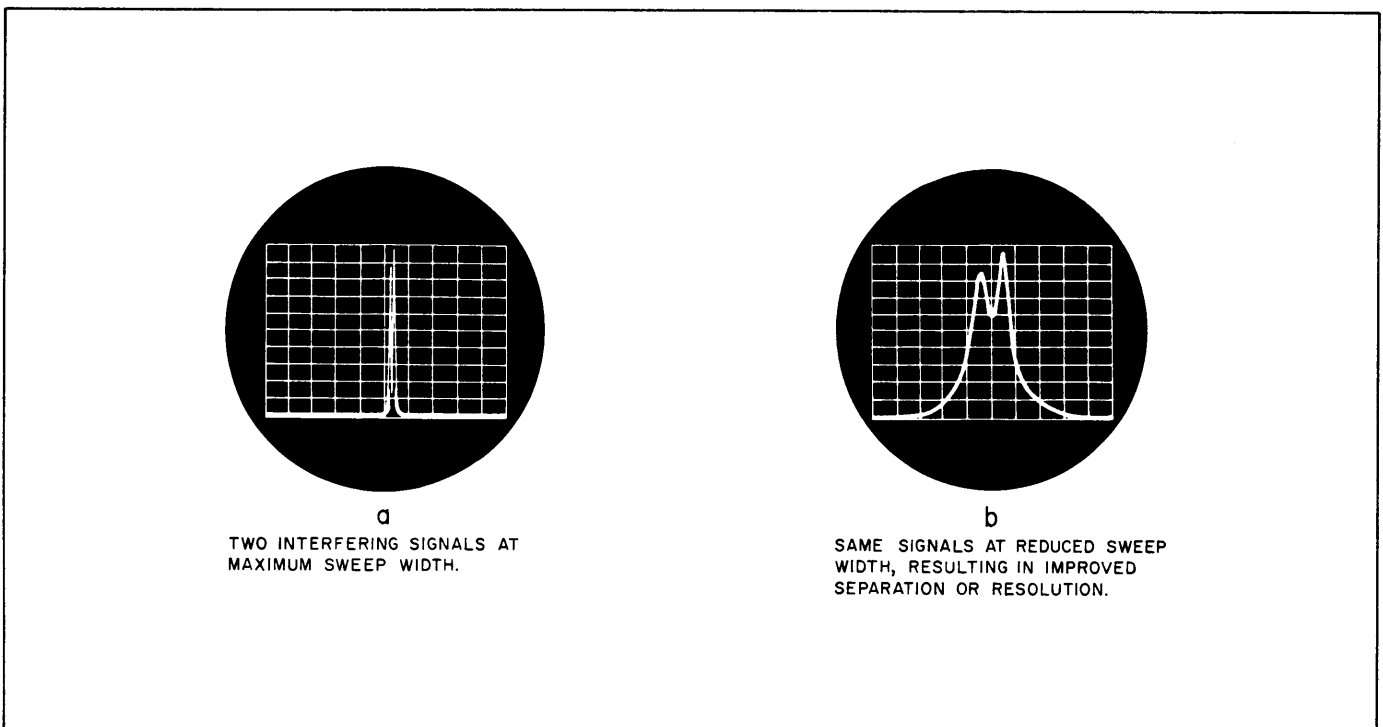

Figure 3-6. Interfering Signal Resolution
h. Signal interference may appear on the crt screen as a single signal varying in amplitude as with modulation. This is caused when two c-w signals are so close in frequency that aural interference or beating occurs. As frequency separation increases, the signal appears to be modulated only on one side. Further frequency separation will cause a break in the apex of the signal deflection. Reduction of sweep width will gradually separate the two signals. Further separation can be achieved by use of the IF BANDWIDTH control and by adjusting the SWEEP RATE control to a lower rate. See figure 3-6.